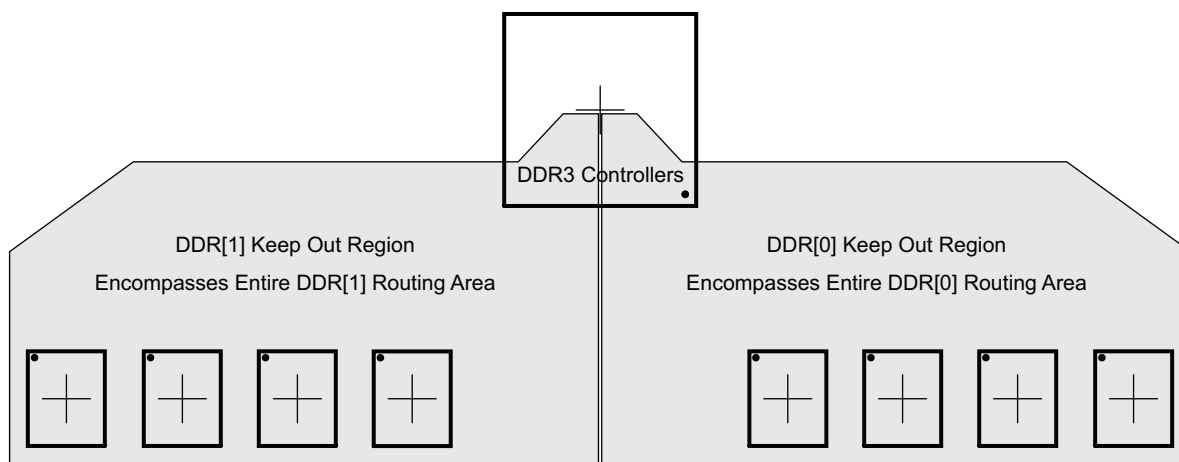

Figure 8-59. DDR3 Keepout Region
(2) Measurements from center of processor to center of DDR3 device.
(3) Minimizing X1 and Y improves timing margins.
(4) w is defined as the signal trace width.
(5) Non-DDR3 signals allowed within DDR3 keepout region provided they are separated from DDR3 routing layers by a ground plane.
(6) Note that DDR3 signals from one DDR3 controller are considered *non-DDR3* to the other controller. In other words, keep the two DDR3 interfaces separated by this specification.
The region of the PCB used for DDR3 circuitry must be isolated from other signals. The DDR3 keepout region is defined for this purpose and is shown in Figure 8-59. The size of this region varies with the placement and DDR routing. Additional clearances required for the keepout region are shown in Table 8-67. Non-DDR3 signals should not be routed on the DDR signal layers within the DDR3 keepout region. Non-DDR3 signals may be routed in the region, provided they are routed on layers separated from the DDR signal layers by a ground layer. No breaks should be allowed in the reference ground layers in this region. In addition, the 1.5-V DDR3 power plane should cover the entire keepout region. Also note that the two DDR3 controller's signals should be separated from each other by the specification in Table 8-67, item 5.